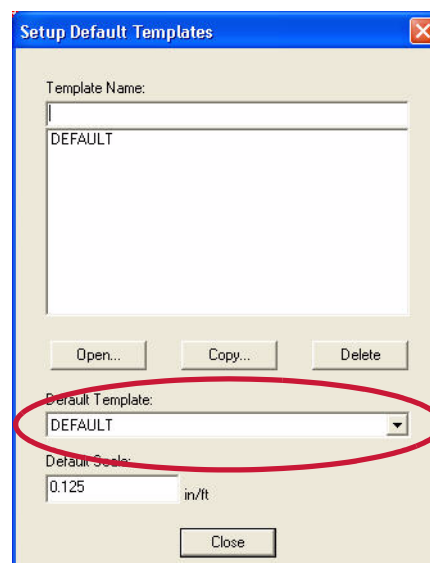

Figure 1-1 The Setup Default Templates dialog box
2. In the **Default Template** area, check that **DEFAULT** is selected, as shown in Figure 1-1.